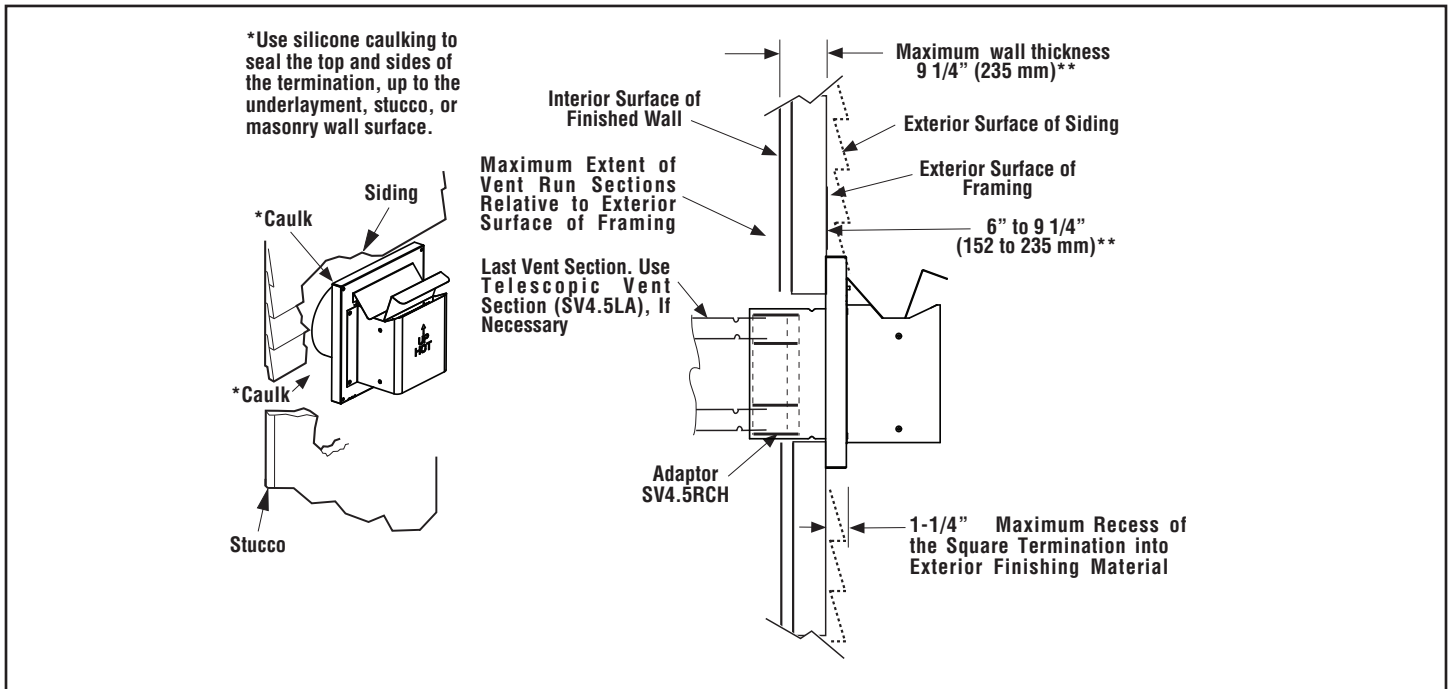

Figure 10 - Venting Connection and Exterior Wall Recessing of the Horizontal Compact Termination (SV4.5HTKCT)
13. **Install the termination (SV4.5HTKCT)**—From outside the exterior wall, slide the collars of the termination onto the adaptor (the outer over the outer and the inner inside the inner) until the termination seats against the exterior wall surface to which it will be attached. Orient the housing of the termination with the arrow pointed upwards. Secure the termination to the exterior wall. The horizontal termination must not be recessed into the exterior wall or siding by more than the 1 1/4" (32 mm) (Figure 10, page 16).